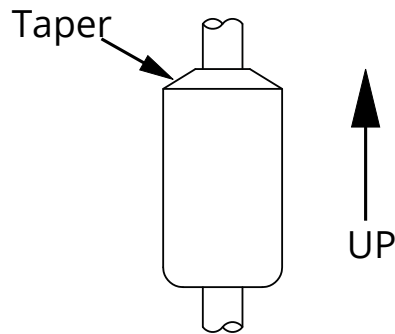

Figure 2.1
- The float(s) is/are oriented properly on the stem (See Figure 2.1). MPI-E floats will be installed by the factory. MPI-R floats are typically installed by customer.